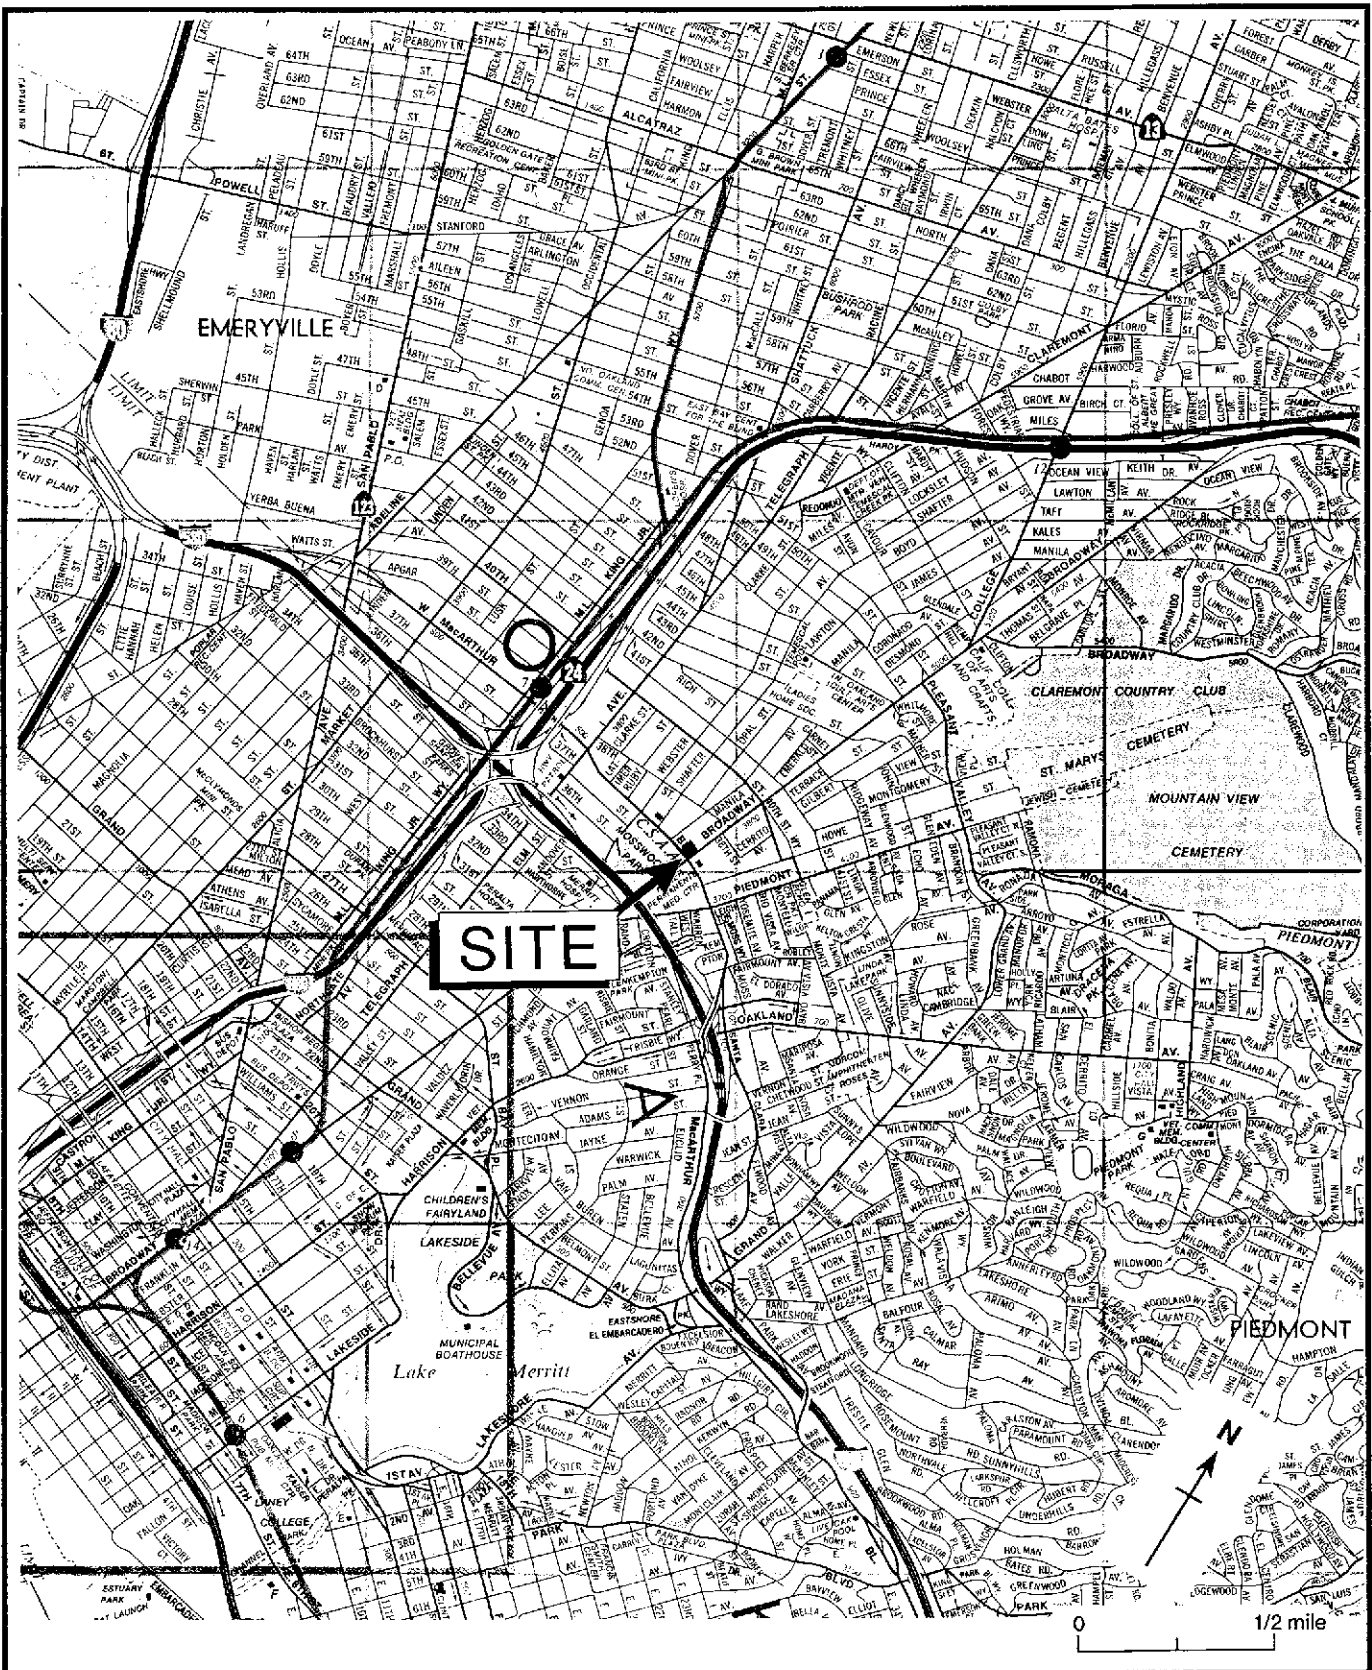
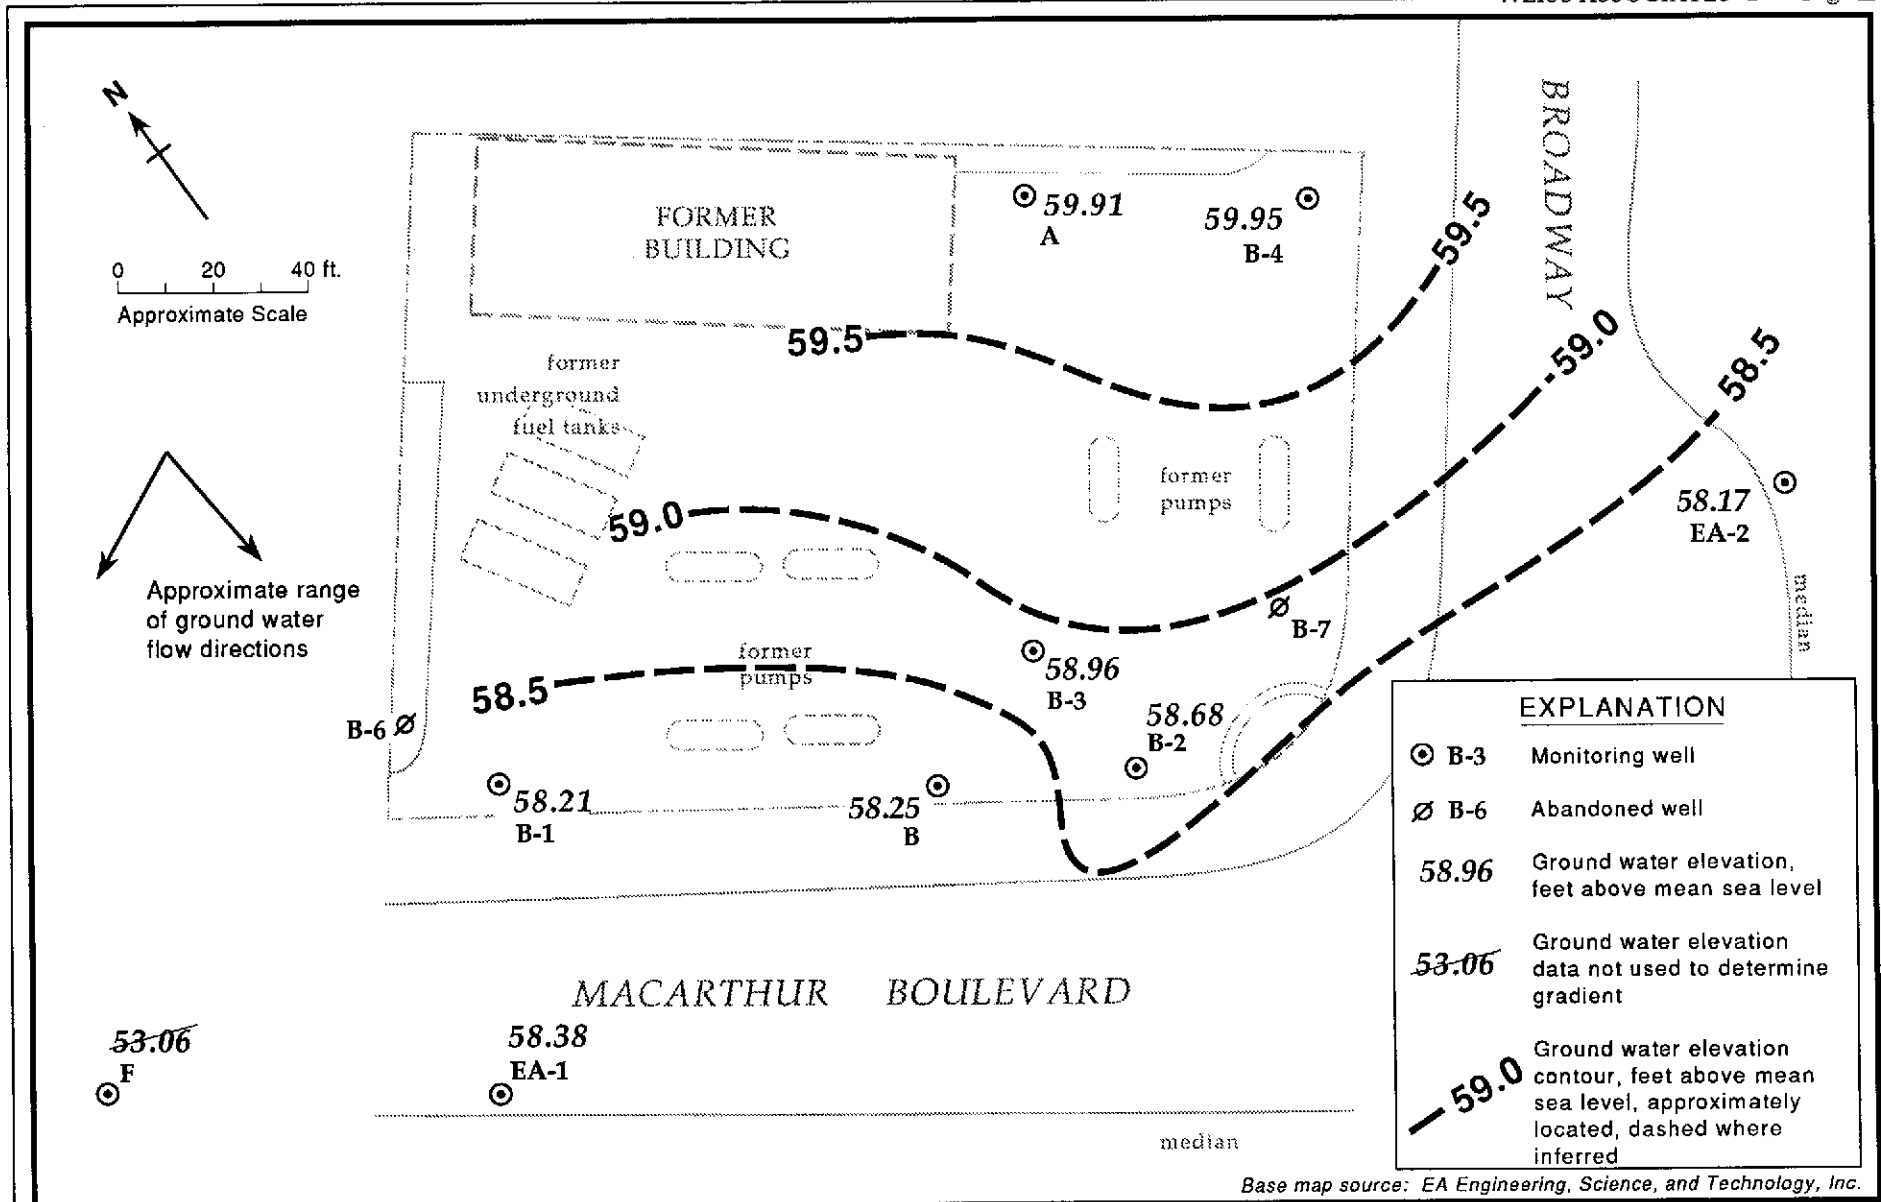

Figure 1. Site Location Map - Former Chevron Service Station #9-1026, 3701 Broadway, Oakland, California
Figure 2. Monitoring Well Locations and Ground Water Contours - June 19, 1991 - Former Chevron Service Station #9-1026, 3701 Broadway, Oakland, California
As you requested, Weiss Associates (WA) is providing this Ground Water Monitoring Report for the site referenced above (Figure 1). WA sampled the ground water monitoring wells (Figure 2) on June 19, 1991, in accordance with the requirements and procedures of the California Regional Water Quality Control Board - San Francisco Bay Region and local regulatory agencies.
The top-of-casing elevation, depth to ground water and the ground water elevation for each well is presented in Table 1. The ground water elevation contours and ground water flow direction are shown on Figure 2.